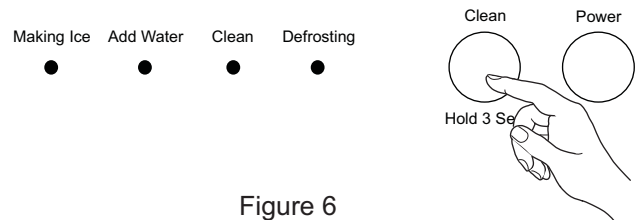

Figure 6
7. Plug in Opal and hold the Clean button for 3 seconds to initiate the cleaning process. See Figure 6.